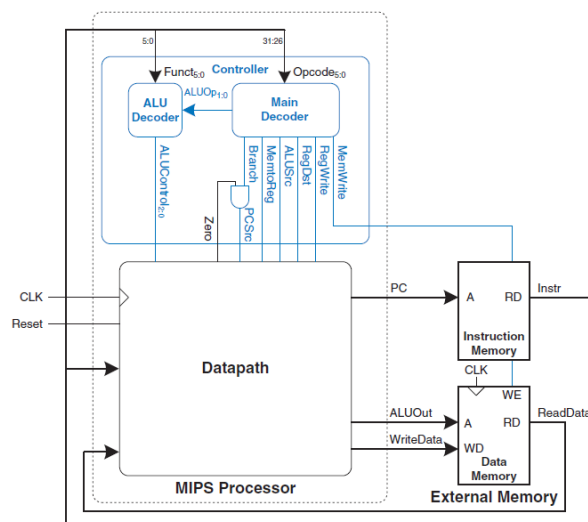

Figure 7.59 MIPS single-cycle processor interfaced to external memory
- Figure 7.59 in chapter 7 illustrates a block diagram for the *single-cycle MIPS*.